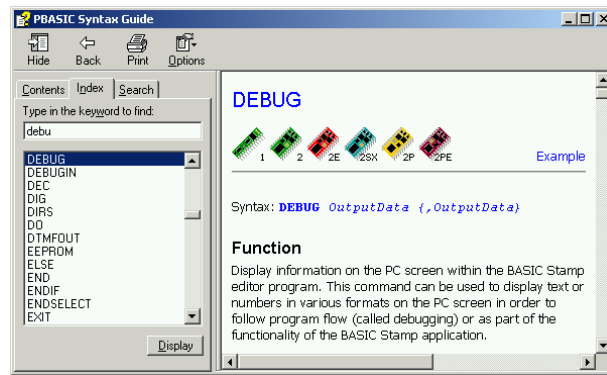

Figure 1-46
- ✓ Type **DEBUG** into the field labeled *Type in the keyword to find:* (shown in Figure 1-46).